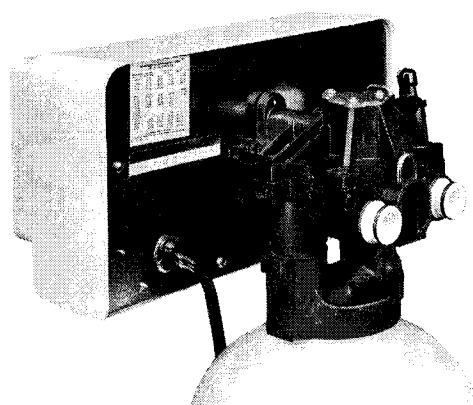

Fig. 13
- Remove the two screws that hold the mounting bracket to the control valve body, raise the U-clip about 1/2", (12.7 mm) and remove the mounting bracket/Cul-Flo-Valv Bypass assembly from the control, leaving the two plastic adapters in the rear of the valve body (Fig. 13).